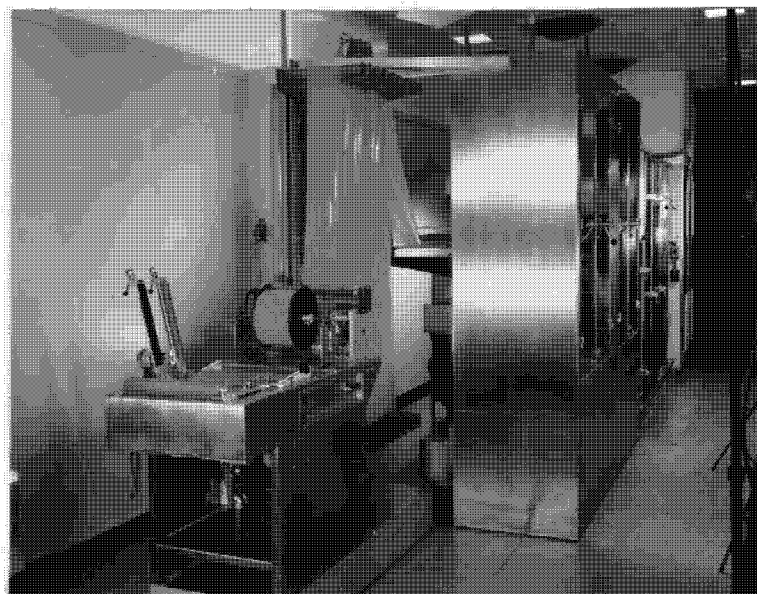

Figure 63
- Figure 63 - Viscous Dalton Film Processor